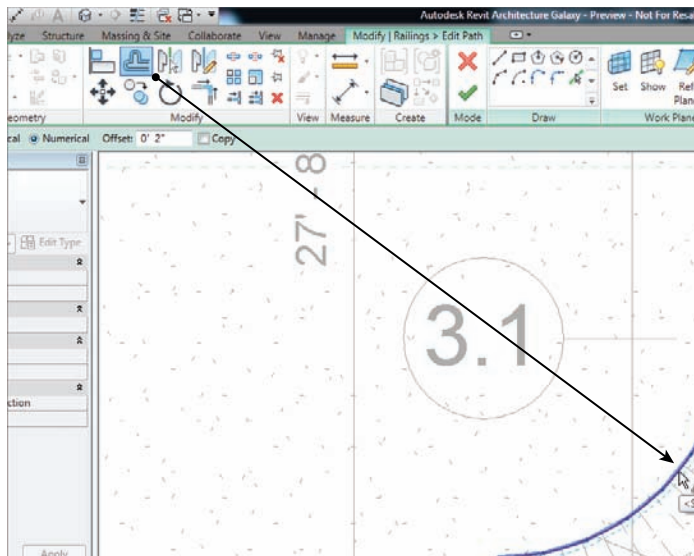

FIGURE 10.48 Offsetting the railing in 2" (50mm)
2. Select the top railing, as shown in Figure 10.48.
4. Click the Offset button on the Modify panel, as shown in Figure 10.48.
7. Offset the railing into the stairs 2" (50mm), as shown in Figure 10.48.